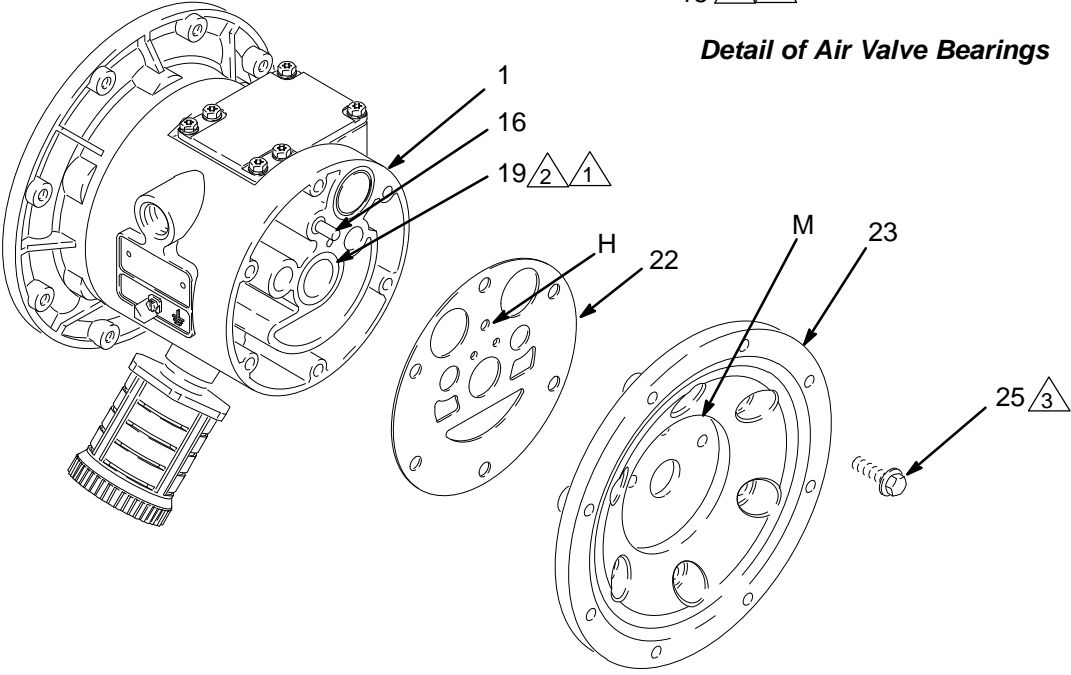

Fig. 15
**NOTE:** If you are removing only the diaphragm shaft bearing (19), skip step 4.
5. Using a 10 mm socket wrench, remove the screws (25) holding the air covers (23) to the center housing (1). See Fig. 15.
1. If removed, install the shaft u-cup packings (402\*) so the lips face **out** of the housing (1).
2. The bearings (12, 15, and 19) are tapered and can only be installed one way. Insert the bearings into the center housing (1), **tapered end first**. Using a press or a block and rubber mallet, press-fit the bearing so it is flush with the surface of the center housing.
4. Align the new air cover gasket (22) so the pilot pin (16) protruding from the center housing (1) fits through the proper hole (H) in the gasket.
5. Align the air cover (23) so the pilot pin (16) fits in the middle hole (M) of the three small holes near the center of the cover. Install the screws (25), handtight. See Fig. 15. Using a 10 mm socket wrench, torque the screws oppositely and evenly to 15–17 N•m.